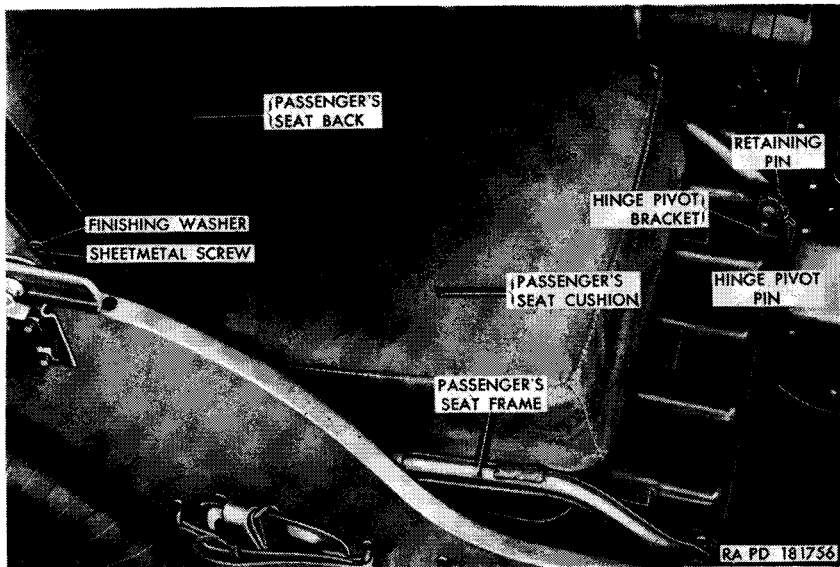
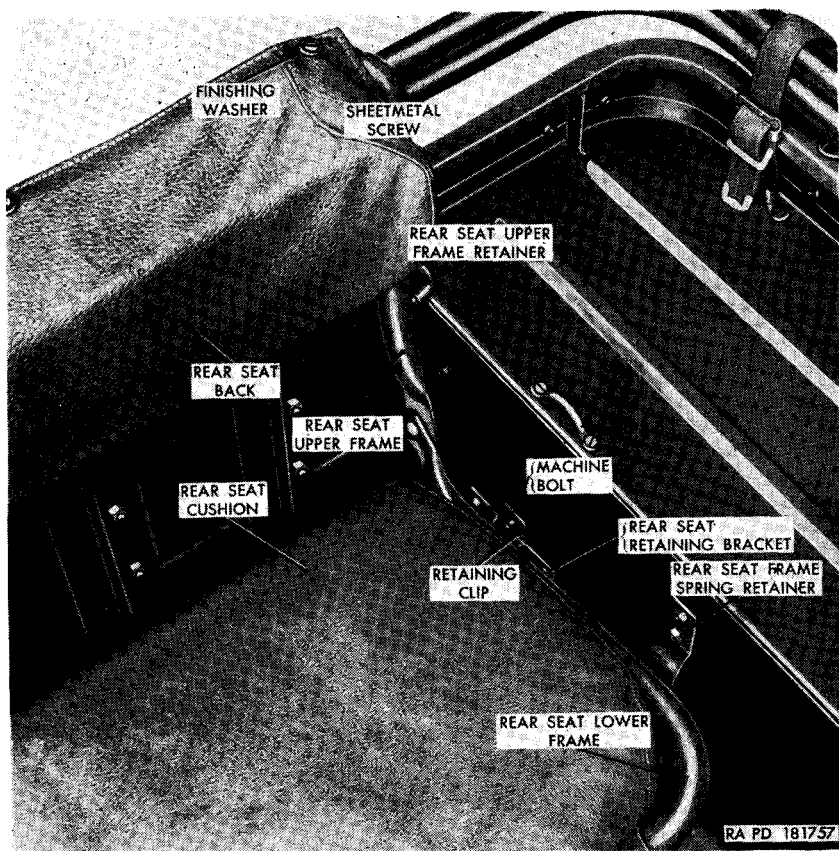

Figure 134. Passenger's seat.
Figure 135. Rear seat disconnect points.
- (2) *Installation.* Position the driver's seat over the fuel tank, aligning the mounting holes in the seat frame with the mounting holes in the floor pans and wheel panel. Secure the seat in position with two  $\frac{5}{16}$  x  $\frac{5}{8}$  lockwasher screws at the front floor pan, and two  $\frac{5}{16}$  x  $\frac{7}{8}$  lockwasher screws at the rear floor pan and wheel panel.
*b. Passenger's Seat (fig. 134).*
- (1) *Removal.* Remove the two retaining pins from the hinge pivot pins welded to the seat frame. Pry the pivot pins out of the hinge pivot brackets and remove seat from vehicle.
- (2) *Installation.* Position the two hinge pivot pins, welded to the seat frame, in the hinge pivot brackets. Secure the pivot pin by inserting retaining pins through the ends of the pivot pins.
*c. Rear Seat (fig. 135).*
- (1) *Removal.* Remove the four plain nuts, lockwashers, and bolts holding the retaining clips in position at each side of vehicle and remove clips from seat retaining brackets. Lift the seat straight up and out of vehicle.
- (2) *Installation.* Position the seat in vehicle so that seat upper frame is inside the two seat upper frame retainers and the seat lower frame is in the rear seat retaining brackets. Position the retaining clips in the retaining
*e. Passenger's Seat Cushion (fig. 134).*
- (1) *Removal.* Tilt the seat forward and remove the two lockwasher screws securing the seat cushion to the seat frame. Pull out on seat cushion to disengage clips at rear of cushion from seat frame and remove cushion from frame. Remove the 12 sheet metal screws and finishing washers securing the seat back to the seat frame and lift the back off the frame.
- (2) *Installation.* Position the seat cushion in the seat frame and push cushion back into frame to engage the clip on the cushion with the frame. Secure the cushion to the frame with two  $\frac{5}{16}$  x  $\frac{5}{8}$  lockwasher screws. Position the seat back on the seat frame and secure in position with 12 No. 10 x  $\frac{1}{2}$  sheet metal screws and No. 10 finishing washers.
*f. Rear Seat Cushion (fig. 135).*
- (1) *Removal.* Remove the 10 sheet metal screws and finishing washers securing the seat cushion to the seat lower frame and lift the seat cushion out of the seat frame. Remove the 10 sheet metal screws securing the seat back to the seat upper frame and lift seat back off frame.
- (2) *Installation.* Position the seat cushion on the seat lower frame and secure in position with 10 No. 10 x  $\frac{1}{2}$  sheet metal screws and No. 10 finishing washers. Position the seat back on the seat upper frame and secure in position with 10 No. 10 x  $\frac{1}{2}$  sheet metal screws and No. 10 finishing washers.